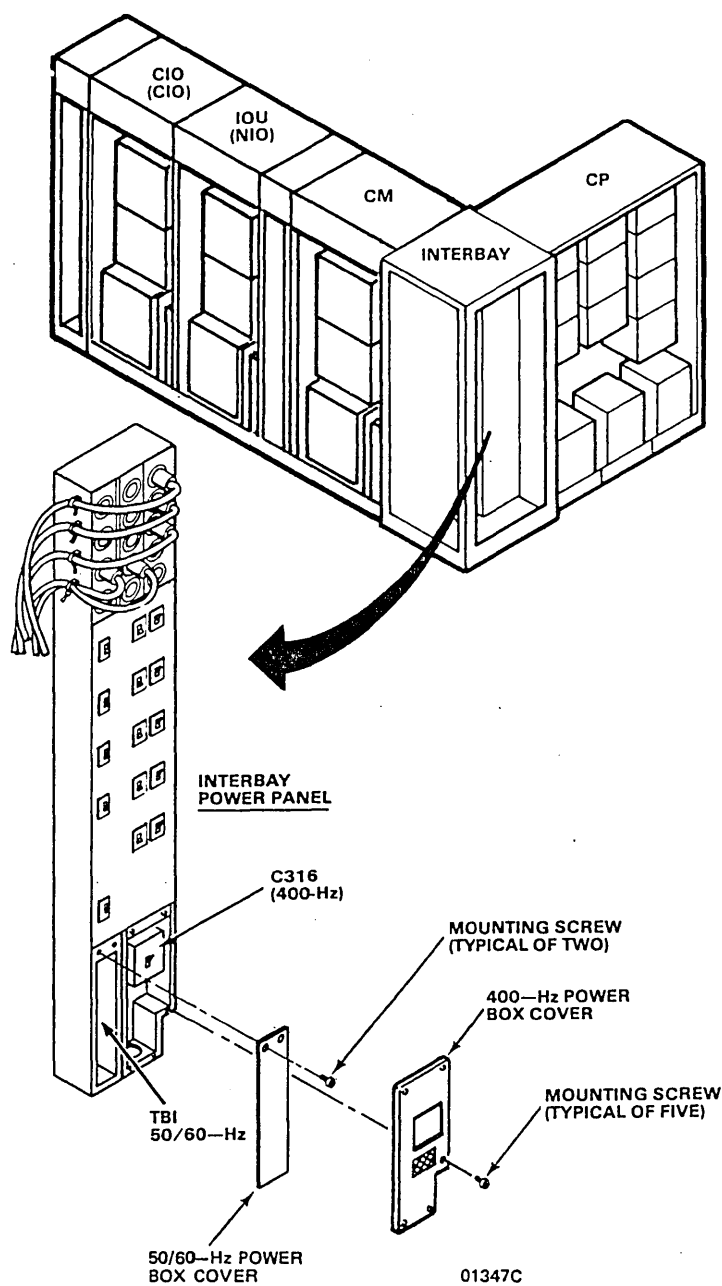

Figure 5-1. 50/60-Hz and 400-Hz Power Connections to Interbay Power Panel
- ___ 2. Use screwdriver to remove two mounting screws and 50/60-Hz power box cover from interbay power panel (figure 5-1).